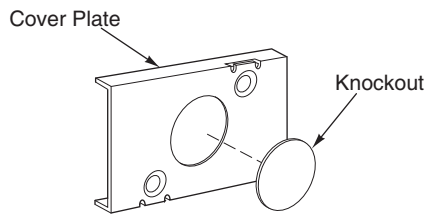

Figure-9 Cover Plate Knockout Removal.
1. Remove the knockout from the cover plate supplied with the actuator. Refer to Figure-9.